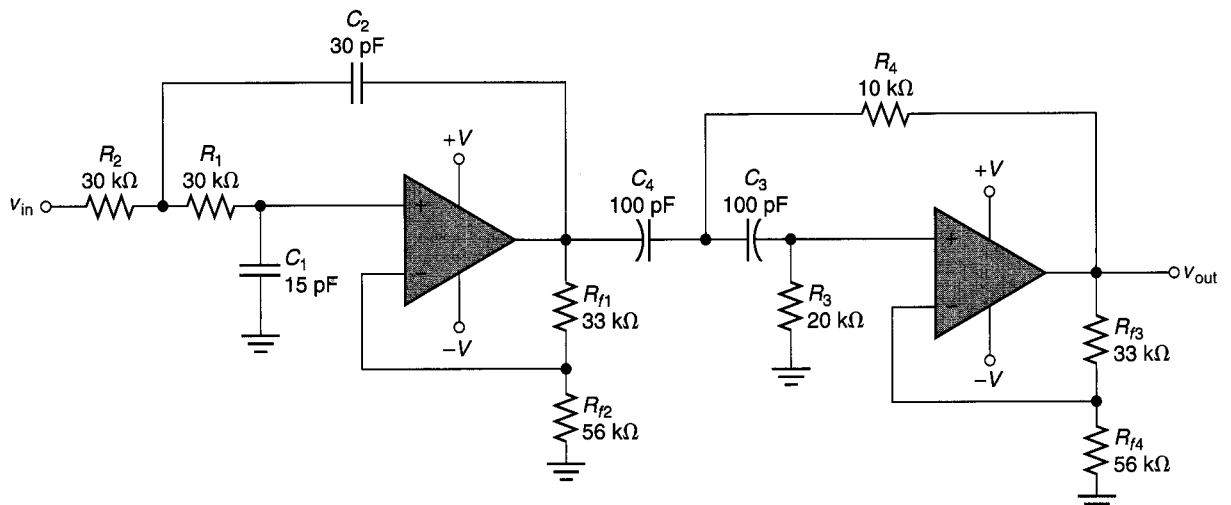

FIGURE 17.50
- 15.** Calculate the values of  $f_{C1}$ ,  $f_{C2}$ , bandwidth, geometric center frequency, and  $Q$  for the band-pass filter in Figure 17.50.